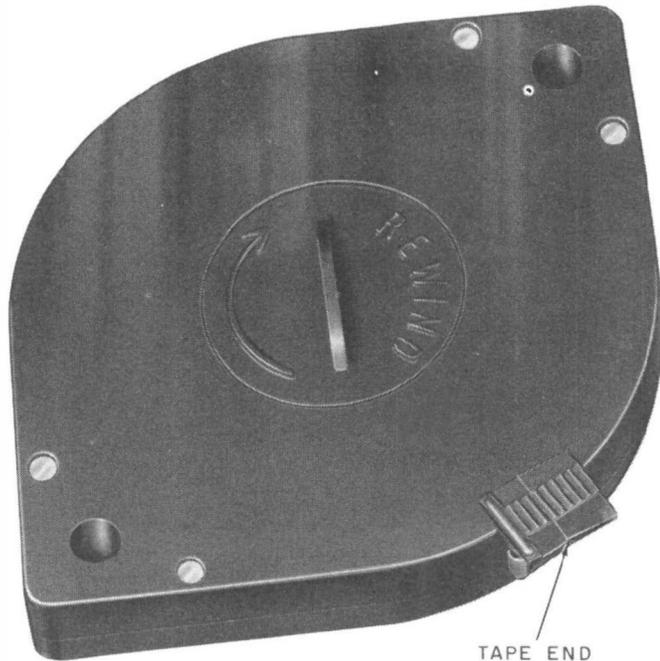
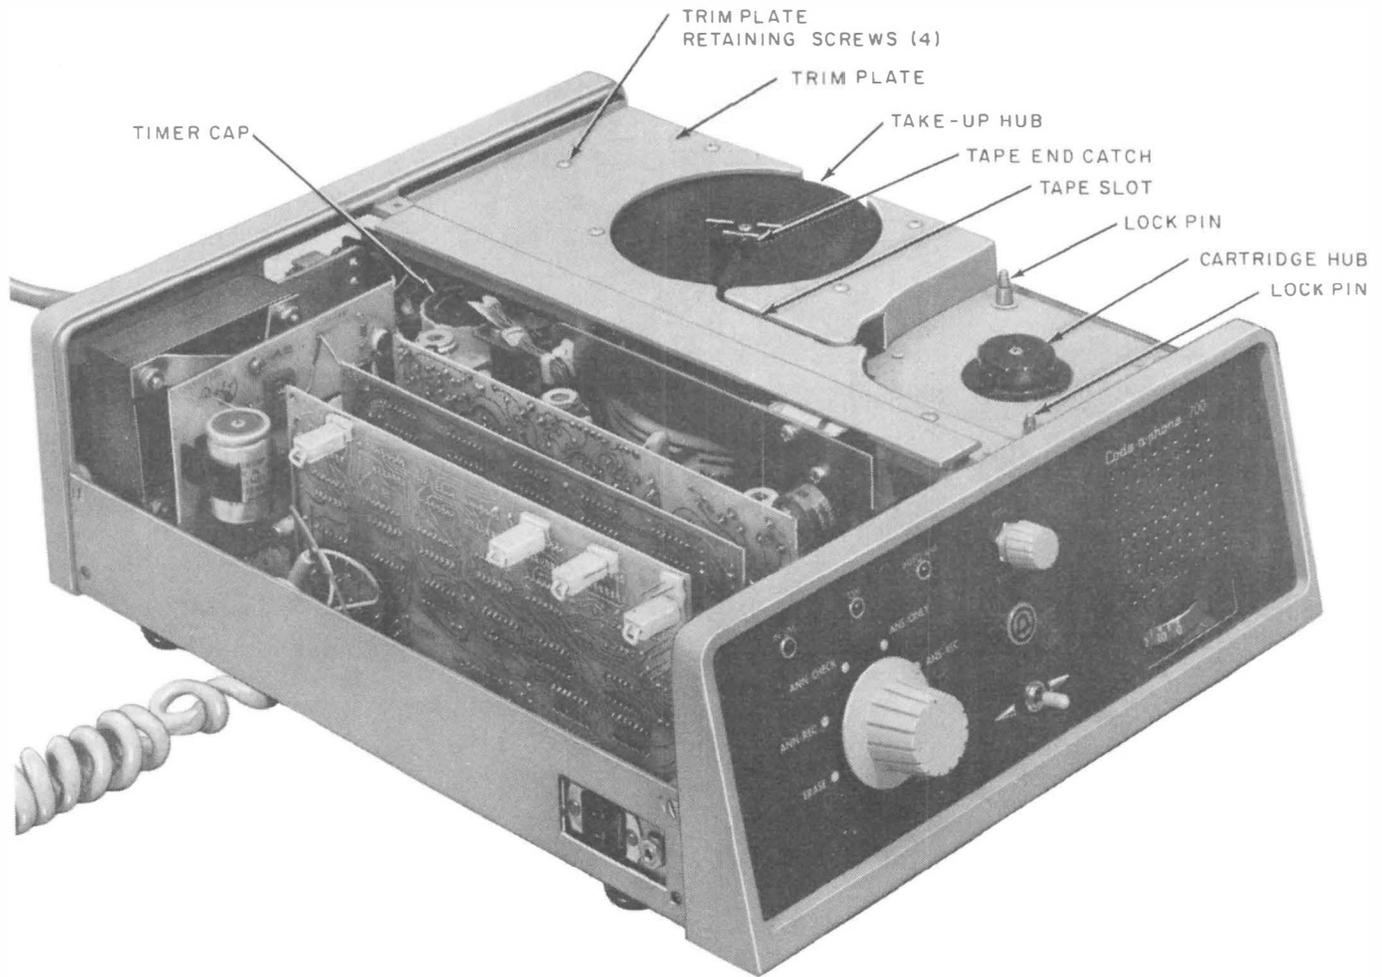
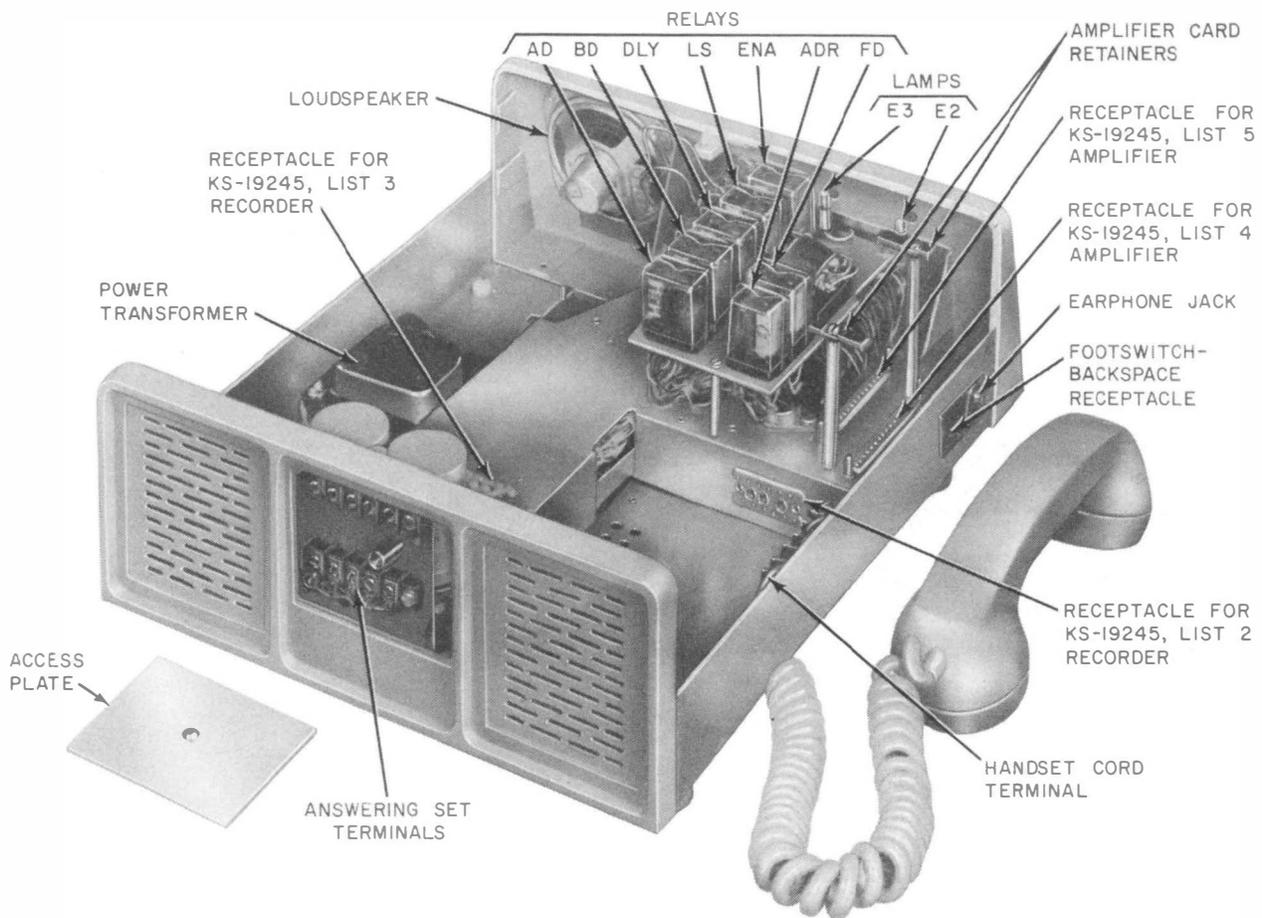

Fig. 10—KS-19245, List 6 Cartridge
Fig. 25—KS-19245, List 1 (MD) Telephone Answering Set—Cover and Components Removed
Fig. 26—KS-19245, List 13, (MD) 24 (MD), or 26 Telephone Answering Set—Cover Removed
(e) **The KS-19245, List 6 Cartridge** (Fig. 10) provides a 1/4-inch wide plastic base magnetic recording tape with a capacity for 2 hours of incoming message recording time.
- (1) Set function selector to OFF.
- (2) Place cartridge (Fig. 10) over cartridge lock pins and hub (Fig. 26) and press down into place.
- (3) Slide tape end (Fig. 10) through* tape slot (Fig. 26) and into slot of take-up reel and lock into place. Make certain, by listening for a snap, that both the left and right sides of the tape end are locked in place.
4.14 Remove cartridge as follows (Fig. 26).
- (2) **List 1 telephone answering set only:**
- (a) Loosen amplifier board retainers (2) (Fig. 25)
- (3) **Lists 13 (MD), 24 (MD), and 26 telephone answering sets only:**
- (a) Remove the four trimplate retaining screws (Fig. 26)